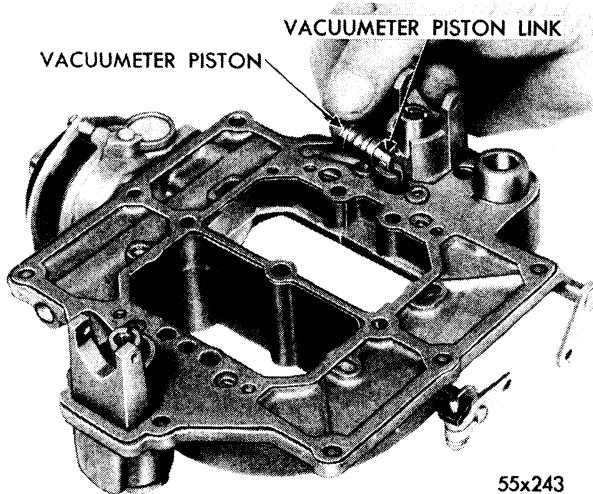

Fig. 38—Installing Vacuum Piston
- (2) Invert the air horn and remove floats. Install a new air horn gasket, then reinstall the primary and secondary floats, and the vacuumer piston. Tilt piston approximately 90° to either side. For correct installation position on the vacuumer piston link. (See Fig. 38.)
- (3) Remove the accelerator pump plunger from the jar of gasoline and flex the leather sev-